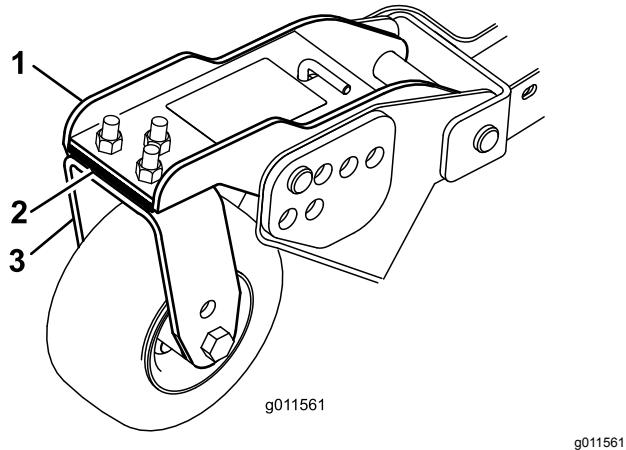

Figure 27
3. Adjust the shims (3 mm or 1/8 inch) on front caster arm(s) to match the height-of-cut decal (Figure 27).
7. If the inside edge of the side cutting unit is too high relative to the outside edge of the front cutting unit, remove one 3 mm (1/8 inch) shim from the bottom of the front inside castor arm on the side cutting unit (Figure 27).